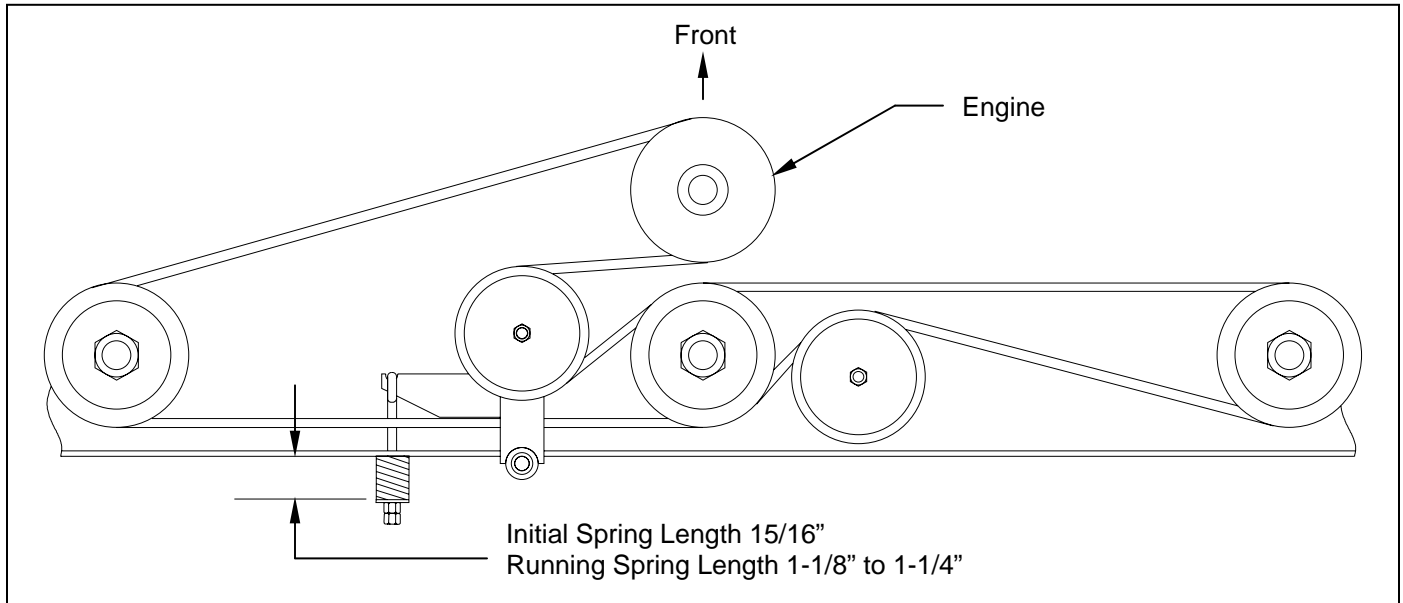

Figure 9: Belt Pattern and Spring Adjustment (Model C60K)
**Model C60K: – See *Figure 9*.**